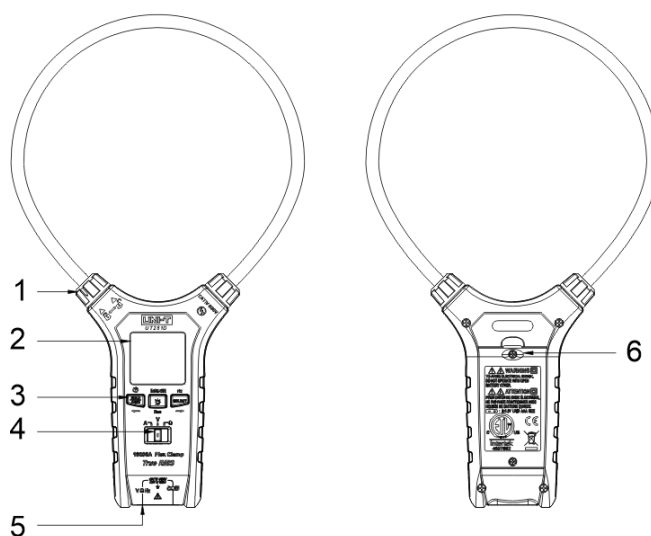

Figure 1
7. External Structure (Figure 1)
3. Continuity and Resistance Measurement (Figure 1)